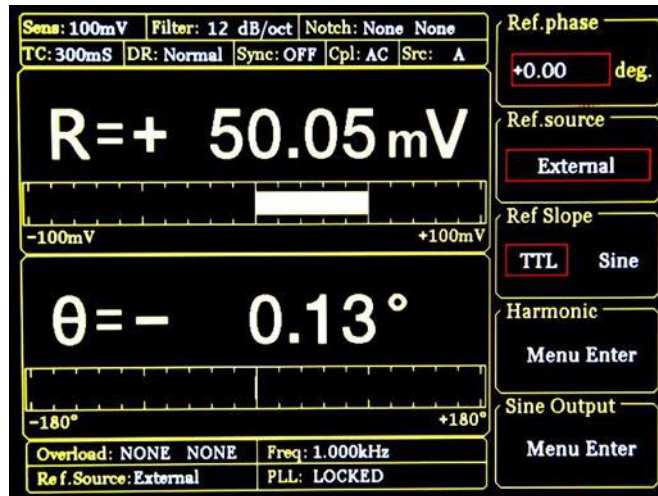
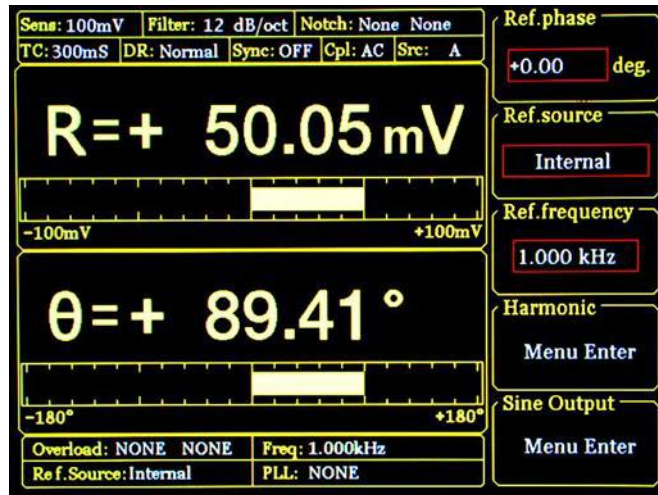
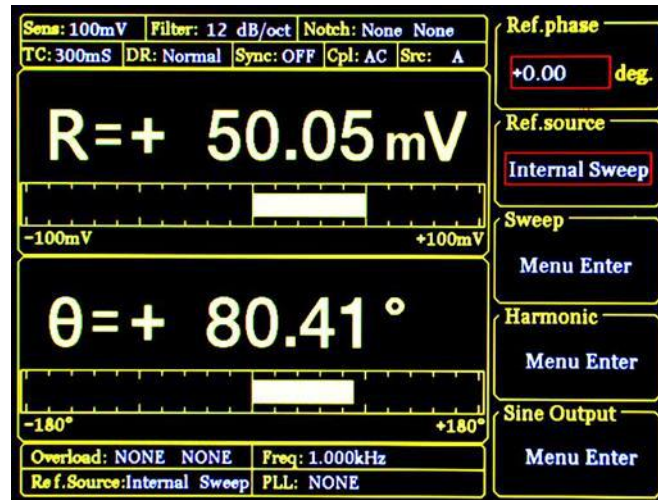

Fig.17 [REF/PHASE] Submenu-<External>.
Fig.18 [REF/PHASE] Submenu-<Internal>
Fig.19 [REF/PHASE] Submenu-<Internal Sweep>
Press [REF/PHASE] and enter its submenu. There are 7 function settings in the submenu, including <Ref.phase>, <Ref.source>, <Ref.slope>, <Ref.frequency>, <Sweep>, <Harmonic> and <Sine Output>. Then choose different <Ref.source>, there will be different submenus as shown in Fig.17, Fig.18 and Fig.19.
- <Internal> The internal reference signal. In this mode, the reference signal is from the internal oscillator. The [REF IN] signal is useless. As is shown in Fig.18, <Ref.frequency> can be set.
- <Internal Sweep> The internal reference signal sweep. In this mode, the signal generator will conduct internal sweep according to the parameters set by users. As is shown in Fig.19, <Sweep> can be set.